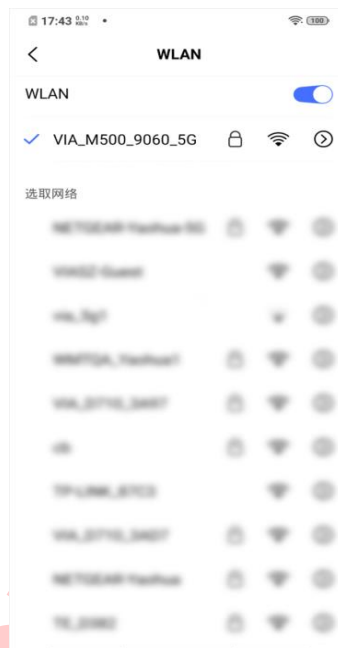

Figure 4
2. Power on the M500 (about 30 seconds), turn on the WIFI of the phone and search for the AP of the M500 to connect (Wi-Fi name is VIA_M500_XXX)(Figure 4). The default password is 12345678.